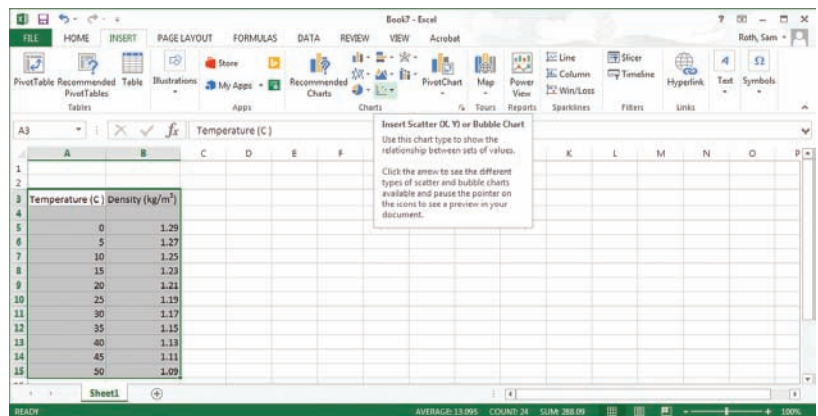

FIGURE 14.15
1. First you will select the data range as shown in Figure 14.15.